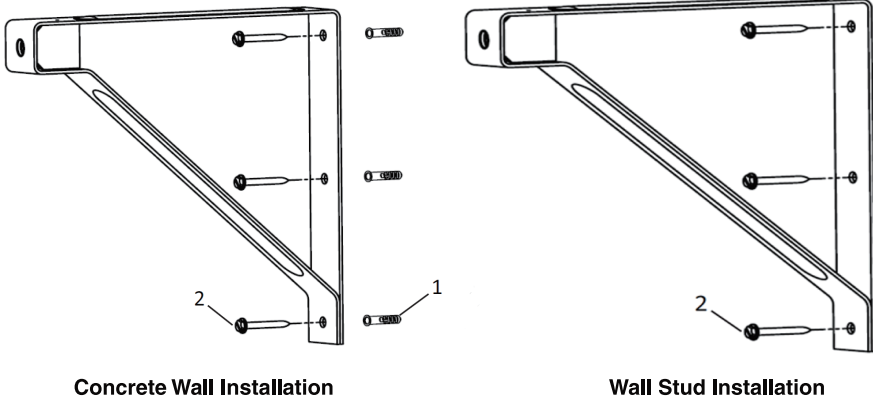

Fig. 2.
- A. For concrete wall installation, after drilling, insert the wall anchors (1) and tap them flush with the wall. Position the bracket and then screw the bolts (2) into the anchors, securely attaching to the wall. See Fig. 2.